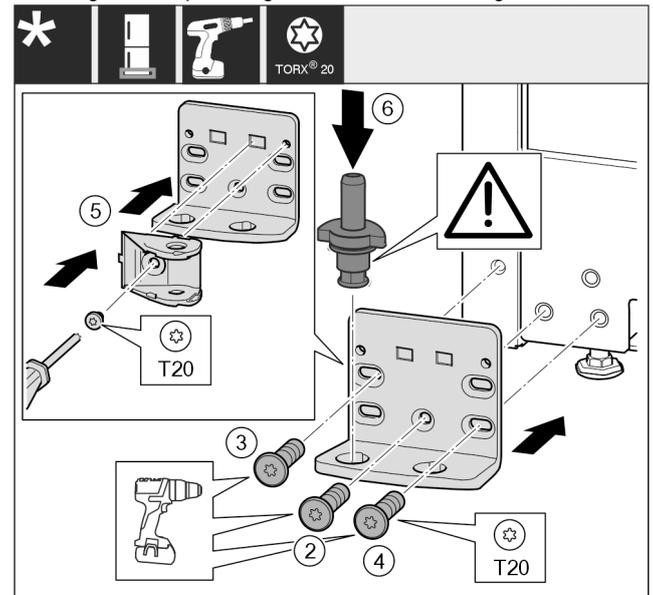

Fig. 26
- ▶ Place the swap bearing block on the other side and use a T20 screwdriver to screw it on. Start with screw 2 at the bottom in the middle. Fig. 26 (2)
- ▶ Tighten screws 3 and 4. Fig. 26 (3,4)
- ▶ Turn the closing damper connection by 180°. Use screwdriver T20 to screw it onto the other side of the swap bearing block. Fig. 26 (5)
- ▶ Insert the bearing bolt completely. Ensure that the latching cam is pointing towards the rear. Fig. 26 (6)